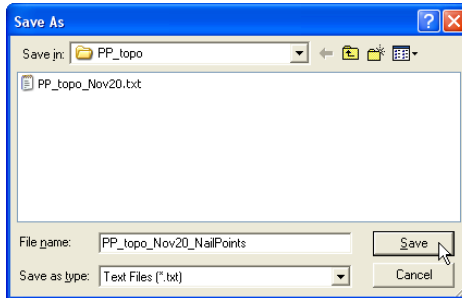

Figure 9-9. Save Control Point Information to a Text File
3. To save the information as a text file, click **File ▶ Save as**, enter a name and select a location for the file, then click **Save** (Figure 9-9).